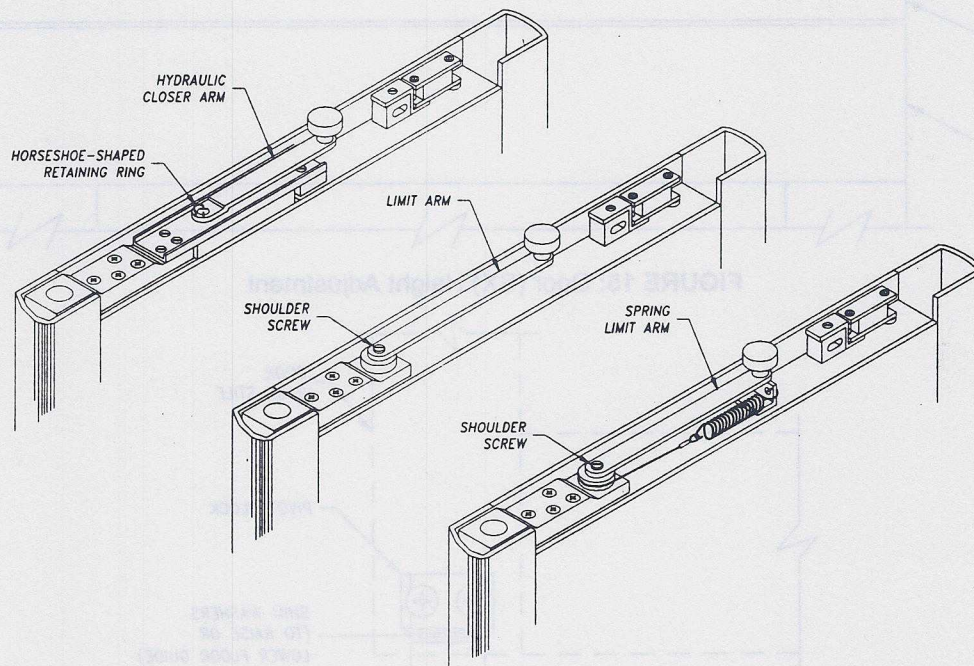

FIGURE 18: Limit Arm Details
1. Depending on the specific package ordered, Dor-O-Matic provides one of three limit arm types: hydraulic closer arm, limit arm, and spring limit arm (Figure 18).